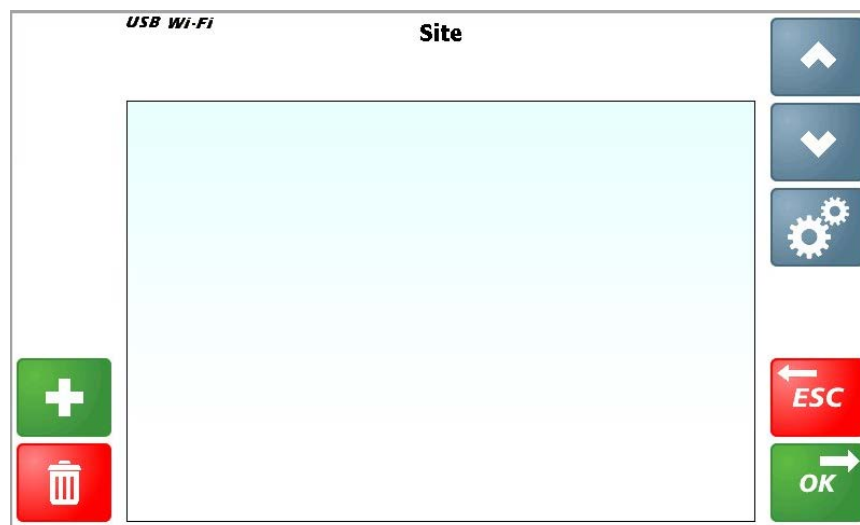

Figure 2-22: Load Weighing Display Site
4. Select **OK** on the load weighing display **Sitelink** screen to open the **Site** screen (Figure 2-22).